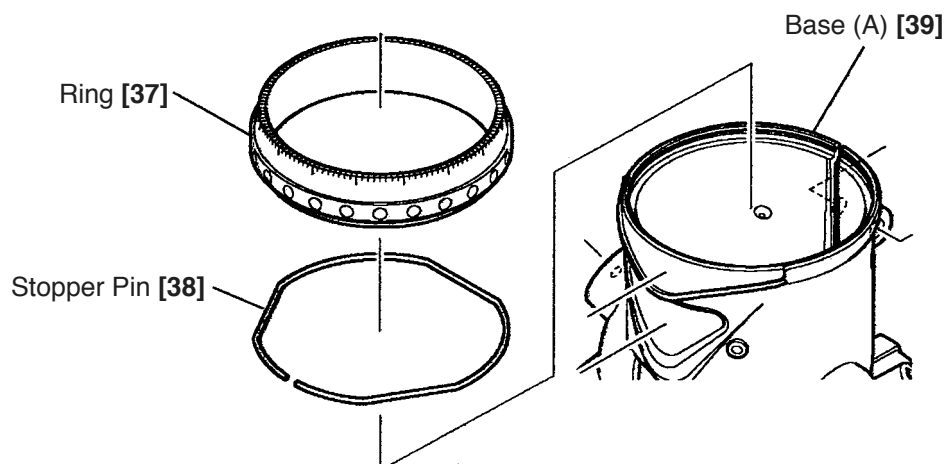

Fig. 9
(1) Removal of the Ring [37] and the Stopper Pin [38] from Base (A) [39] (Fig. 9)